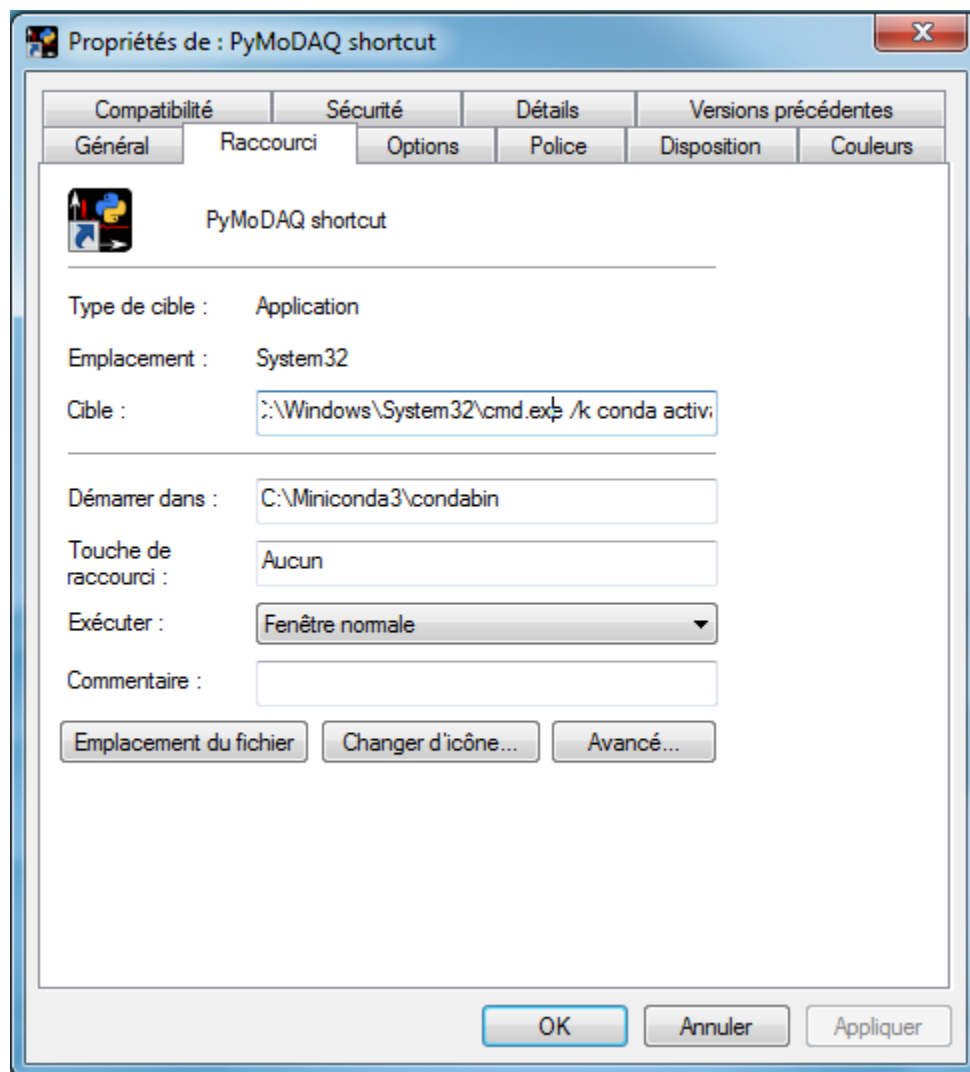

Fig. 4.3: Shortcut properties
- Right click on it and open its properties (see Fig. 4.3)